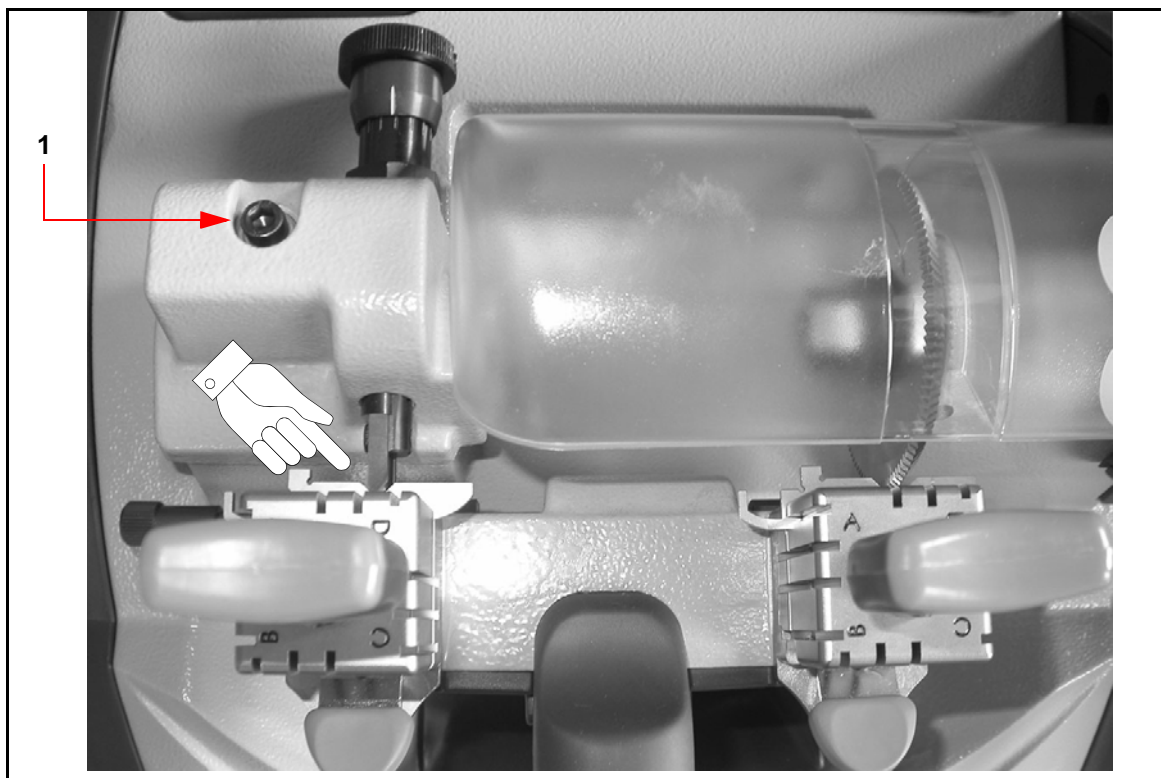

Figure 8: Checking and adjusting the milling cutter - tracer point gap
2. Move the carriage towards the machine and shift it left or right until the milling cutter and the tracer point fits into the V- shaped groove of the all purpose plate (see figure 8);
4. Loosen nut (1);
7. Tighten nut (1) and make sure the tracer point is locked.